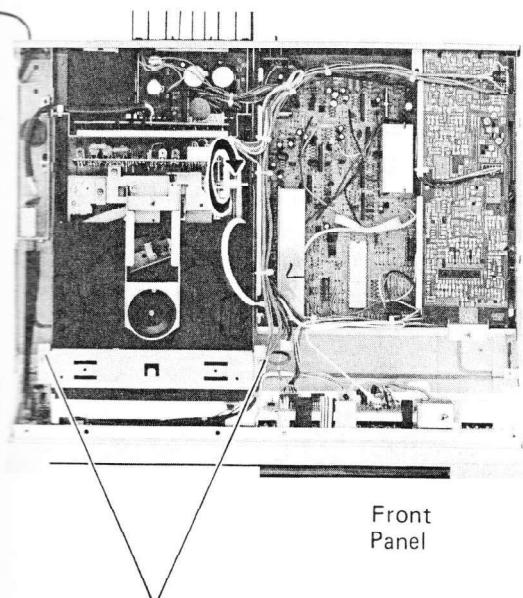

Figure 9
2. Remove six screws (F), and bottom plate will be removed. (Figure 9)
2. Remove stay after removing two screws (G) (3φ x 5mm). (Figure 9)